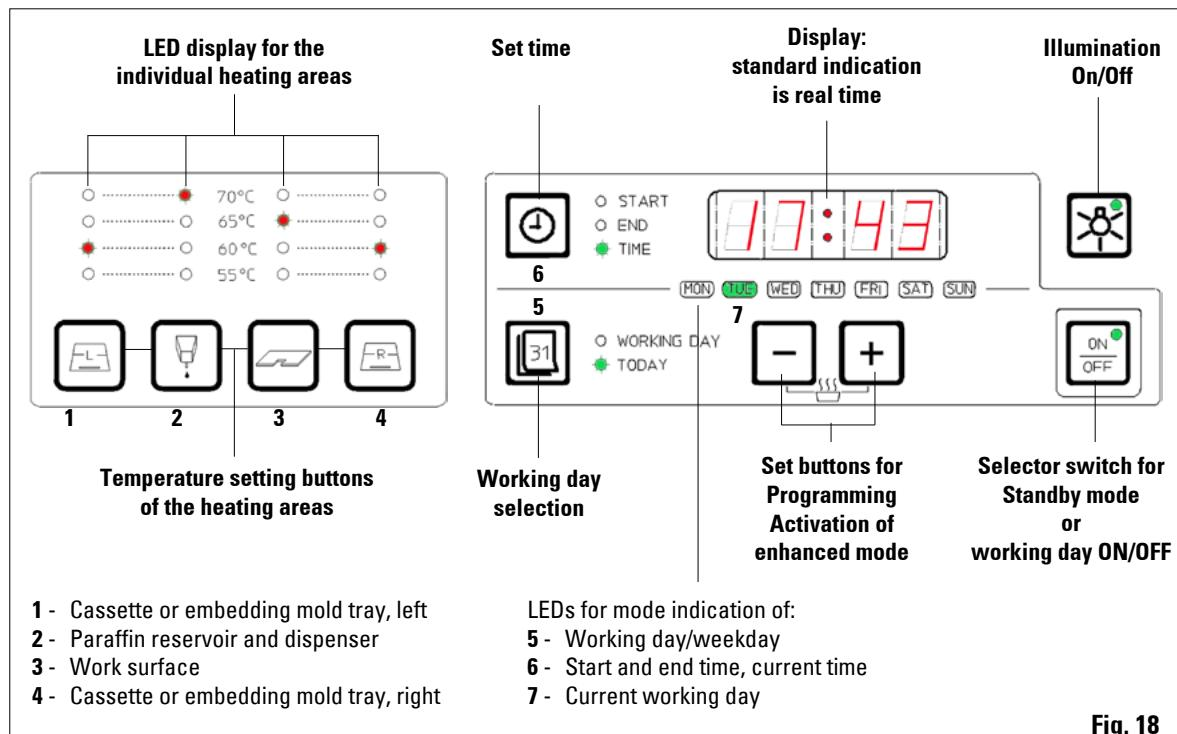

Fig. 18
- The heaters become active and the LEDs indicate the values last set. The target value LEDs for the heating areas (1, 3, and 4 in Fig. 18) flash quickly for the duration of the heating phase (cf. "Display of the heating intervals").
The LED for the paraffin reservoir (2 in Fig. 18) flashes in 1-second intervals and thereby indicates the intensified heating of the paraffin reservoir (for 4 hours).